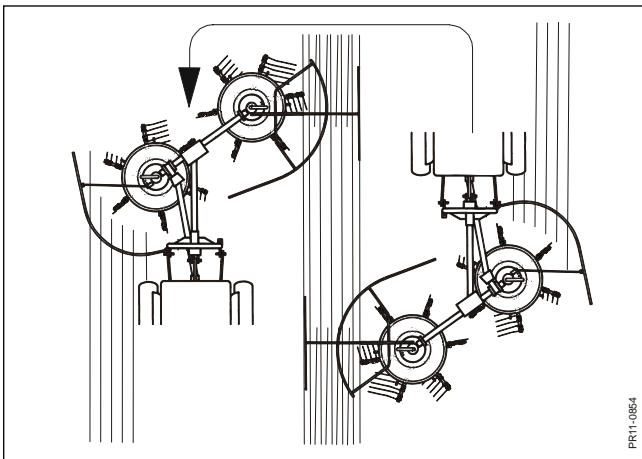

Fig. 3-27
**Fig. 3-27** max. 11' mower or combined harvester.